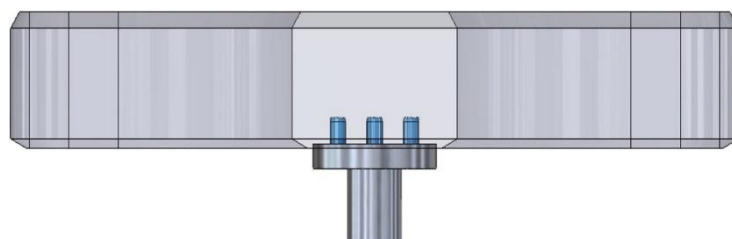

Figure 3.1 Installation of the PLX-HotStage indenter holder.
- 3.3. Bolt the PLX-HotStage indenter holder to the PLX-Benchtop crosshead using the three M4 bolts supplied with the PLX-HotStage and highlighted in blue in Figure 3.1.